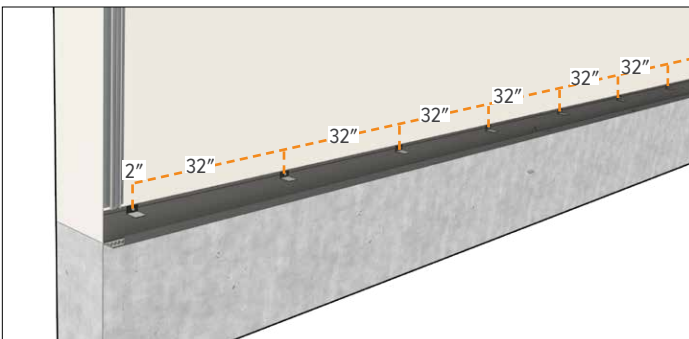

Figure 16.3
3. Secure the Perforated Starter J by placing fasteners through the Plank Backers into the Starter J fastener line at 32" o.c. and no further than 2" from the ends. (Figure 16.3)